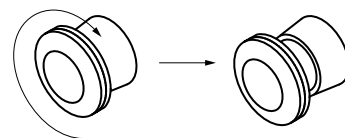

Fig. 2.2 Releasing the E-STOP button.
3. Make sure that the **E-STOP** button is released. If not, turn it clockwise as much as possible and release it. (fig. 2.2).